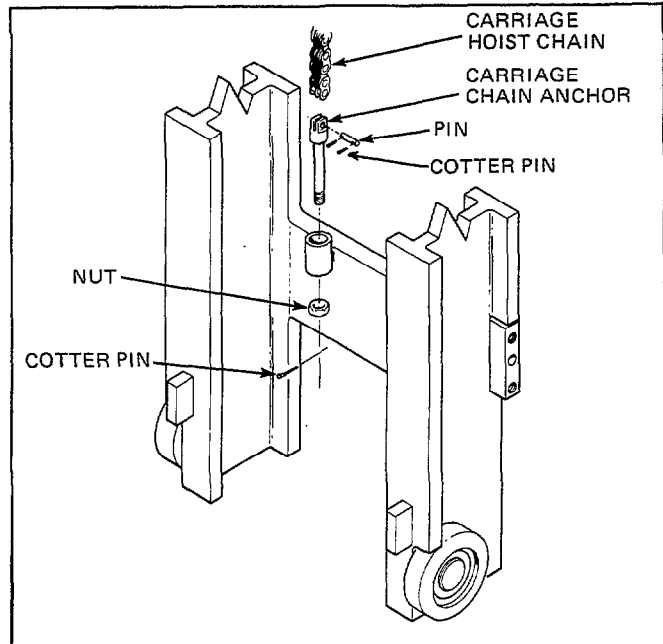

Figure 39. Carriage Hoist Chain Installation Assembly (Inner Upright)
2. Connect the carriage hoist chains to the brackets on the inner upright assembly. See Figure 39.